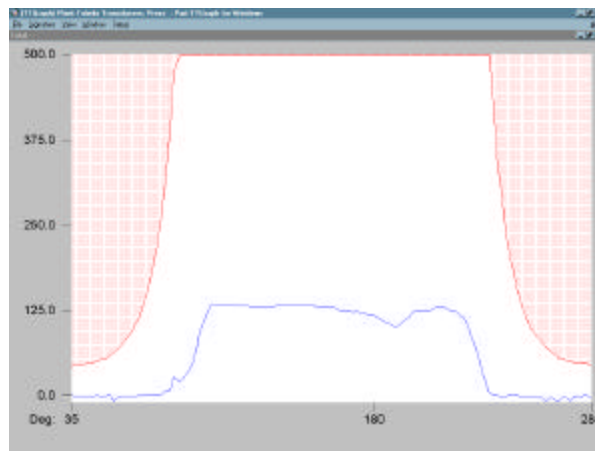

Figure 13: Signature in Outer view.
1. Choose View on the menu bar and then choose Outer at the top left of your screen. This allows you to view only the outer ram signature(s). (See Fig. 13).